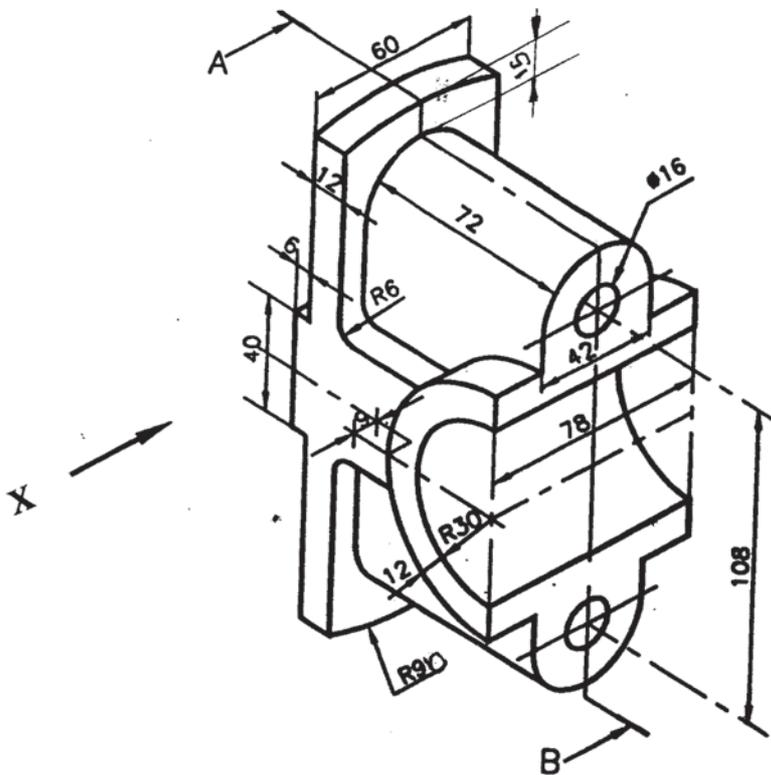

Fig. 2
4. For object shown in the fig. 2, draw the following views :